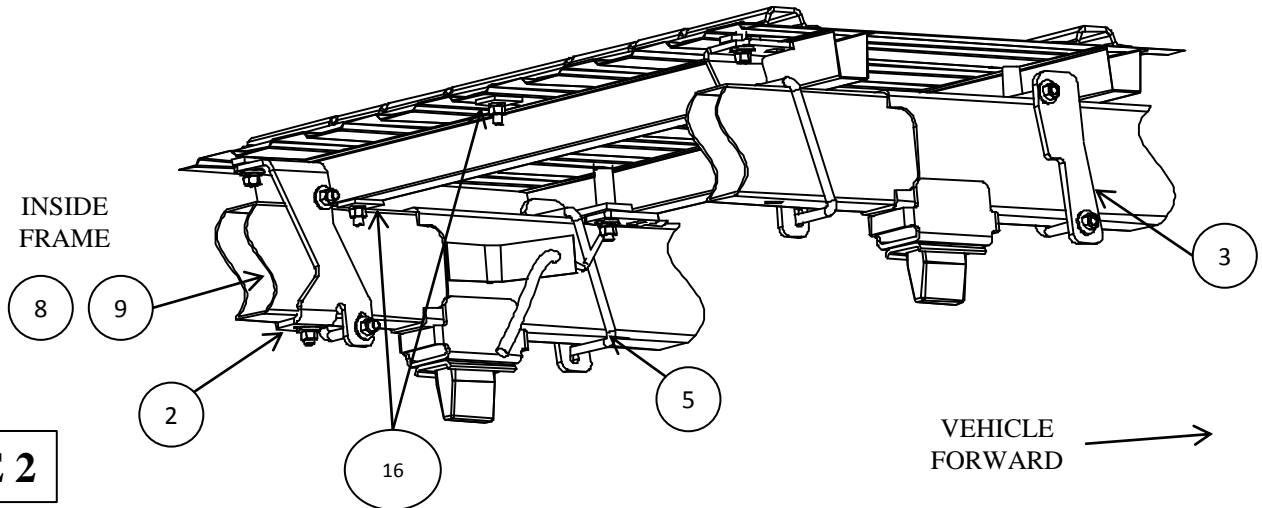

FIGURE 2
- b) Install a u-bolt (5) on each of the brackets (1) (3). The u-bolt wraps around the inside of the frame. Loosely install 1/2 in. conical washers (7) and hex nuts (6) onto the ends of the u-bolts (5). **NOTE: The u-bolt on the driver side must be placed between the brake line and the frame. See Figure 2. Improper placement of the driver side u-bolt may result in damage to the vehicle's braking system. Move the electric wires out of the way.**